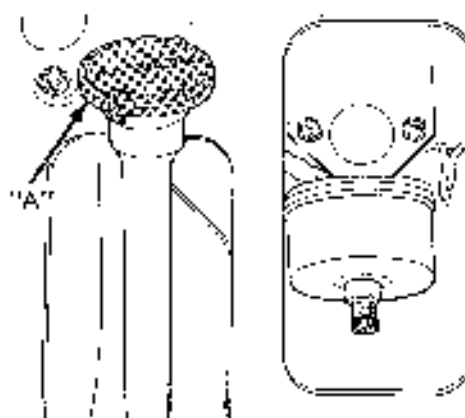

Fig. 8
Before operating, fill the crankcase to "FULL" mark on dipstick (A), Figure 8, using proper grade and amount of a quality engine oil.
1. Plug cord into starter switch connector (H, Figure 8, and a convenient 120 volt outlet).